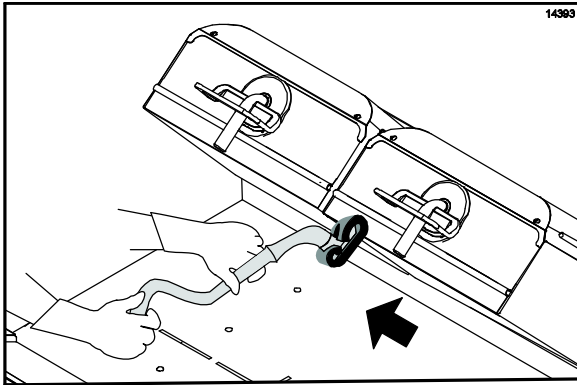

Figure 80
- Apply **McD Hi-Temp Grill Cleaner (HTGC)** to the front side of the platens, starting from the right platen to the left platen. (See Figure 80.)